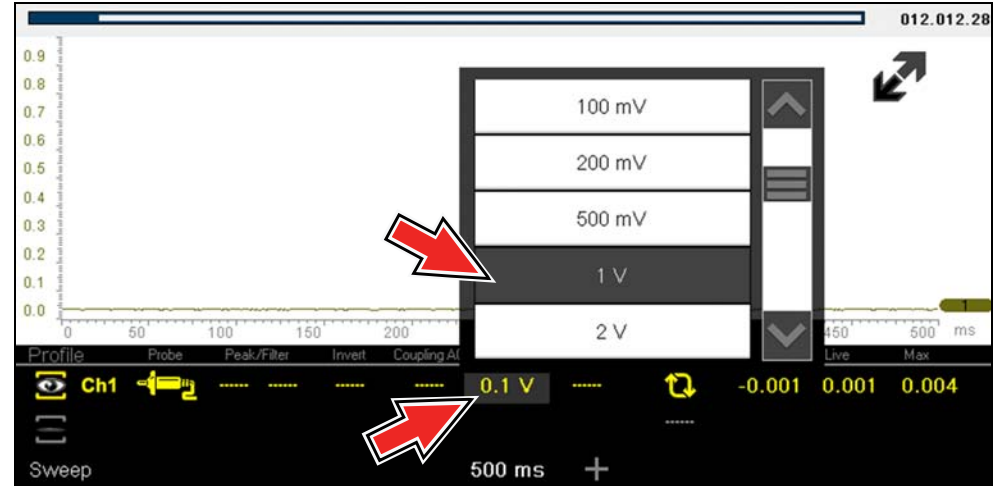

Figure 12-32
**Example (Figure 12-32):** If the vertical scale is set to 1V, the value displayed is 0.1V.